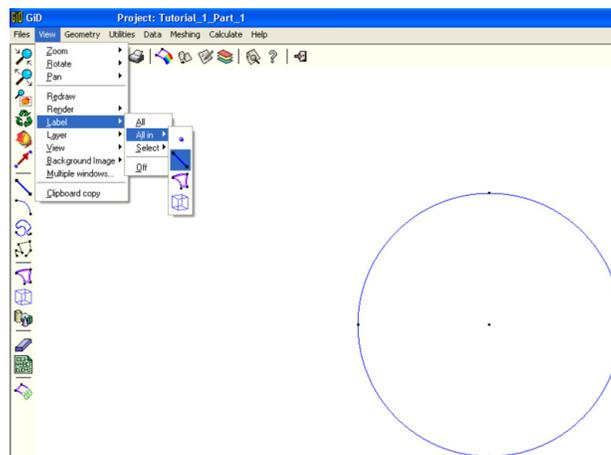

Figure 5: Turning on the line labels
- Use **View|Label|Off** to turn off all point labels. Use **View|Label|All In**, and in the drop-down menu, select the picture of the line which is the second item from the top, as shown in Figure 5.